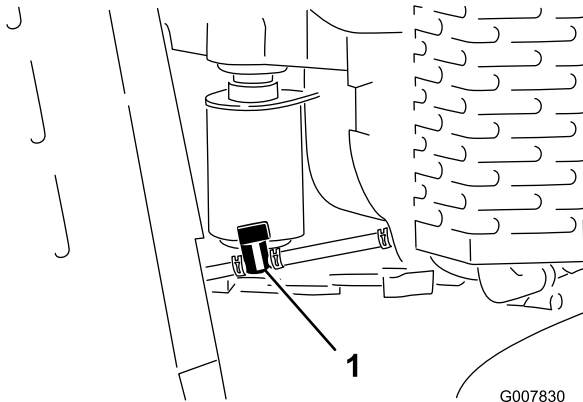

Figure 39
4. Turn the fuel shut-off valve to the closed position (Figure 39).
3. Turn the fuel shut-off valve to the closed position (Figure 39).
5. Squeeze the ends of the hose clamp on the engine side of the shut-off valve together and slide it up the fuel line away from valve (Figure 39).
6. Pull the fuel line off the valve (Figure 39). Open the fuel shut-off valve and allow the gasoline to drain into a gas can or drain pan.
7. Turn the fuel shut-off valve to the open position (Figure 39).